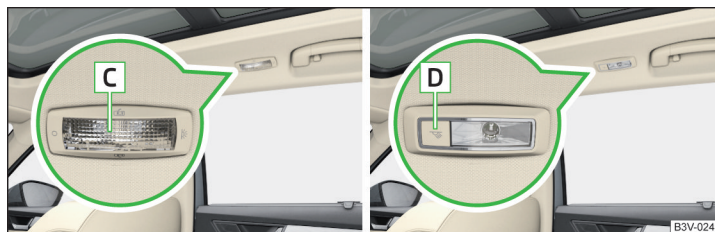

Fig. 63 Interior light, rear: Variant 2 / Variant 3
**Variant 2: moving the lamp lens** **C** » Fig. 63
### Variant 3 » Fig. 63